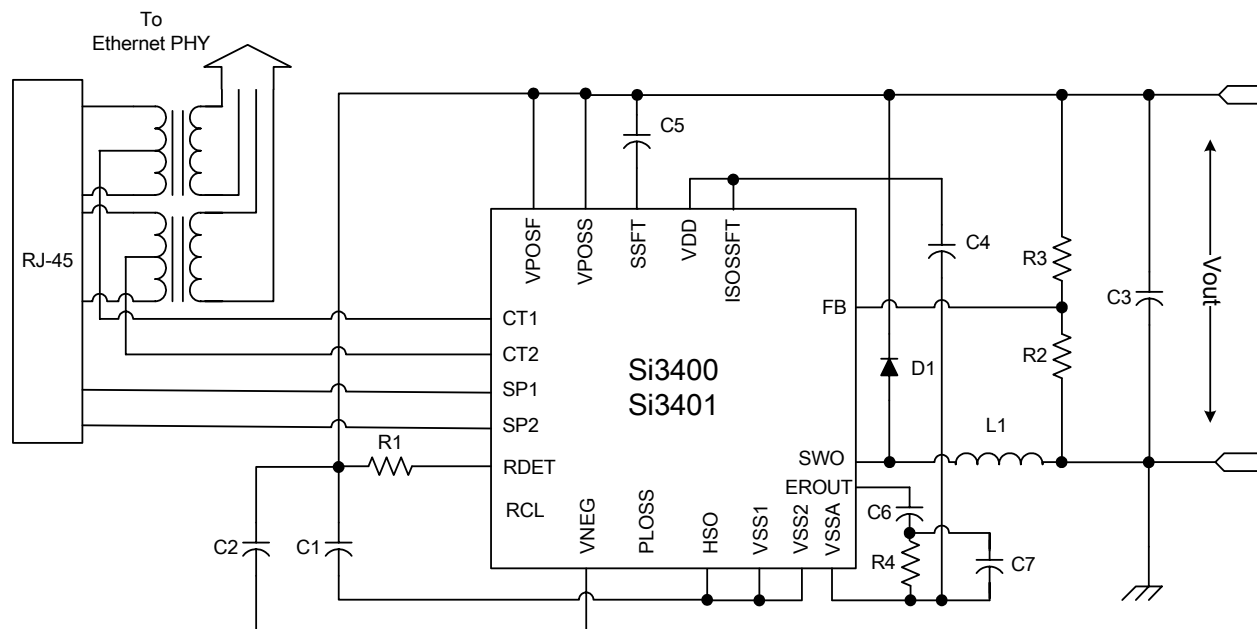

Figure 1. Schematic—Class 0 with Non-Isolated 5 V Output*
6. Applies to non-isolated applications only (VOUT on schematic in Figure 1).